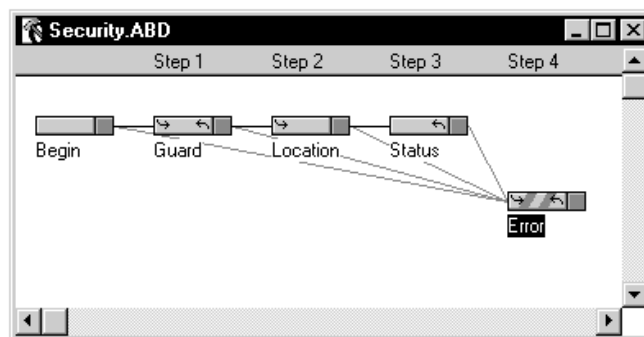

Figure 4-14 Detour Handler Named Error
16. Press the computer's <Enter> key to enter the new name (Figure 4-14).